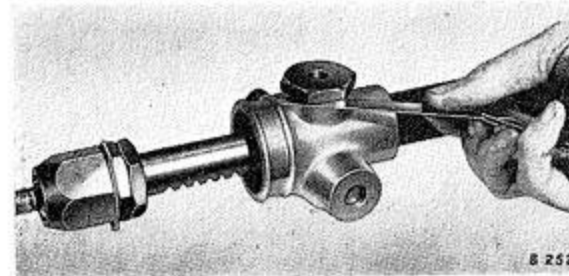

Fig. 18. Using feeler gauge to determine shim thickness required under cap nut
5. Fit the plunger (31) and cap nut (27) to the rack tube (25). Tighten the nut to eliminate all end float and, using feeler gauges, measure the clearance between the nut and the rack tube faces as shown on Fig. 18. Remove the cap nut (27) and plunger (31).
7. Pack the unit with grease and assemble the cap nut (27), shim pack (29), spring (30) and plunger (31) to the housing (25) and tighten the cap nut.